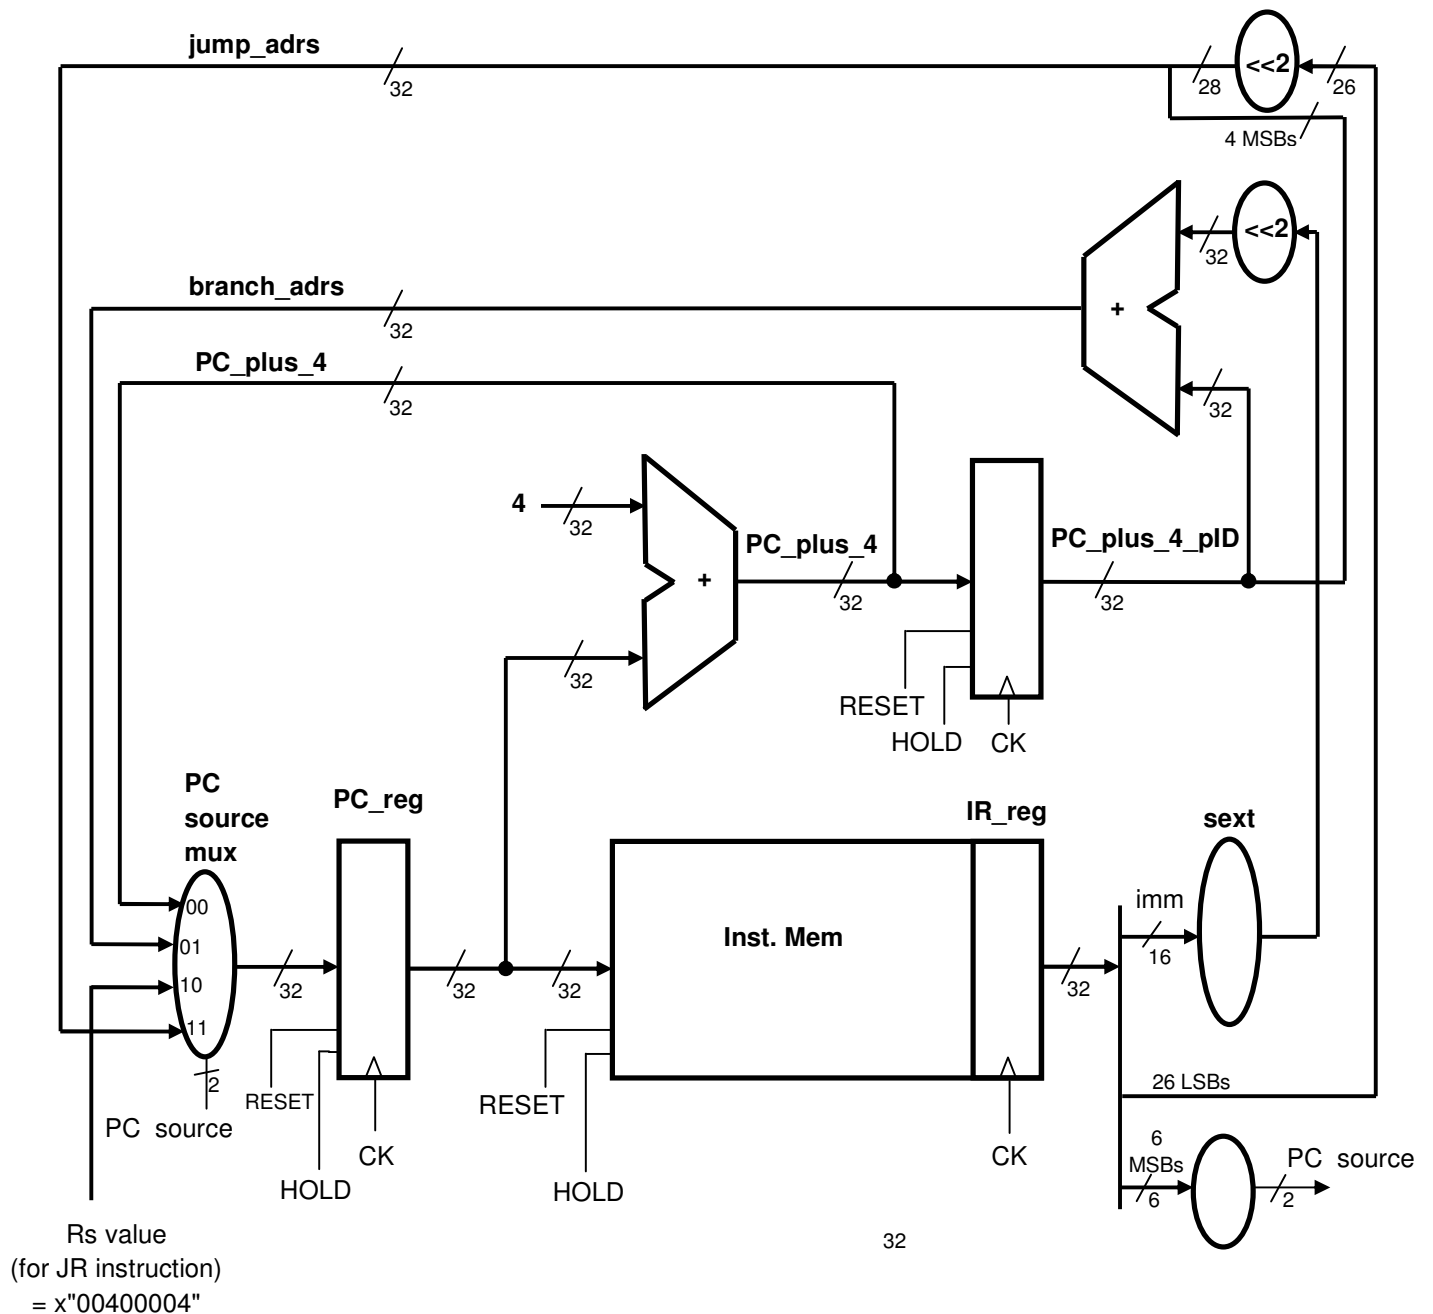

Fig. 1 – The Fetch Unit
The Fetch Unit is the part of the CPU that fetches the instruction from the Instruction Memory (IMem) into the Instruction Register (IR_reg). It also handles jumps and branches. The Fetch Unit's main components are the PC register (PC_reg) and IMem. The PC_reg is a 32 bit register that advances by 4 in every clock. Thus we should have also a 32 bit Adder that adds 4 to the current PC_reg value. In order to jump or branch, we need to input the jump address or branch address to the PC register. Thus, we have a multiplexer at the input of the PC register. This is depicted in Fig.1 above
The light blue part is the entity you design. It is called the **Fetch_Unit** and is defined in the **Fetch_Unit.vhd** file. Inside the Fetch_Unit entity you need to define all signals. Then, you should write the equations of the PC_reg, PC_plus_4 adder, branch_adrs, jump_adrs, jr_adrs, PC_source mux, sext_imm and the instruction decoder producing the PC_source signal. The MIPS instruction coding is described in Appendix A at the end of this document. Note that all of the elements shown in Fig.1 (beside the IMem) will be in the same file, the **Fetch_Unit.vhd**. Do NOT implement these elements as entities (components)!
Your design includes all signals, registers and logic we see in Figure 1 except the IMem and IR itself. The IMem & IR are implemented for you in advance in a component called **BYOC_Host_Intf_4sim**. Another important pre-prepared component is the **BYOC_Clock_driver_4sim.vhd**. All of these 3 components (the pre-prepared two and the Fetch_Unit you designed), reside inside the design top file called **HW2_top_4sim.vhd**. It describes the connections of all of the 3 components and the signals outputted to the Test Bench. We have prepared the **HW2_top_4sim.vhd** file for you.
- 2) **Fetch_Unit.vhd** - your design implementing figure 1
You now have to write the equations describing the logic circuitry of Figure 1. For that we also added remarks listing the required functionality inside the “empty” file.